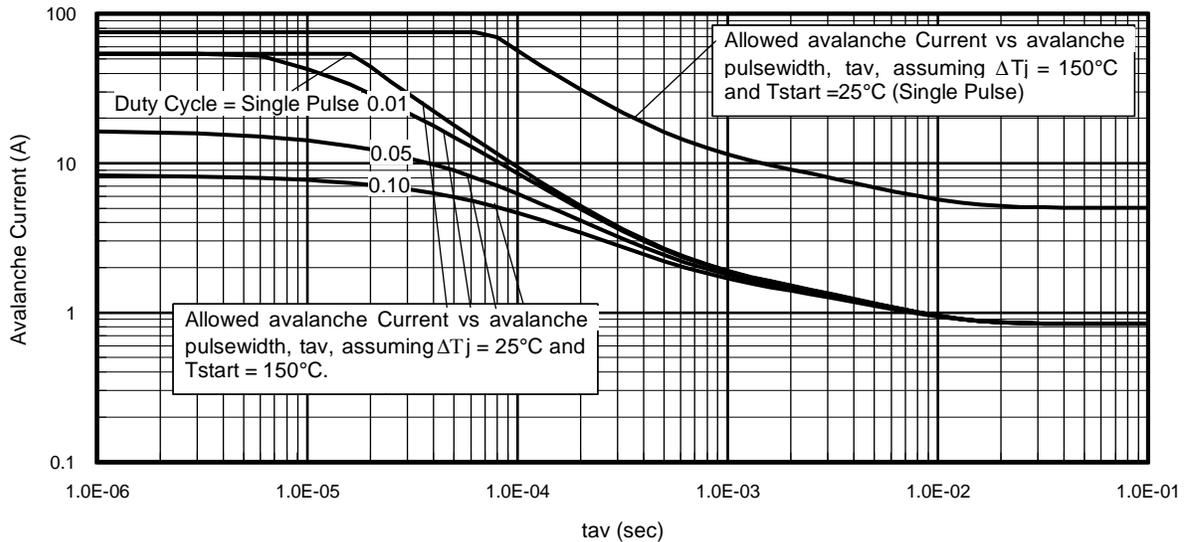

Fig 14. Typical Avalanche Current vs. Pulsewidth
Notes on Repetitive Avalanche Curves, Figures 14, 15:
7. ΔT = Allowable rise in junction temperature, not to exceed T_{jmax} (assumed as $25^{\circ}C$ in Figure 14, 15).